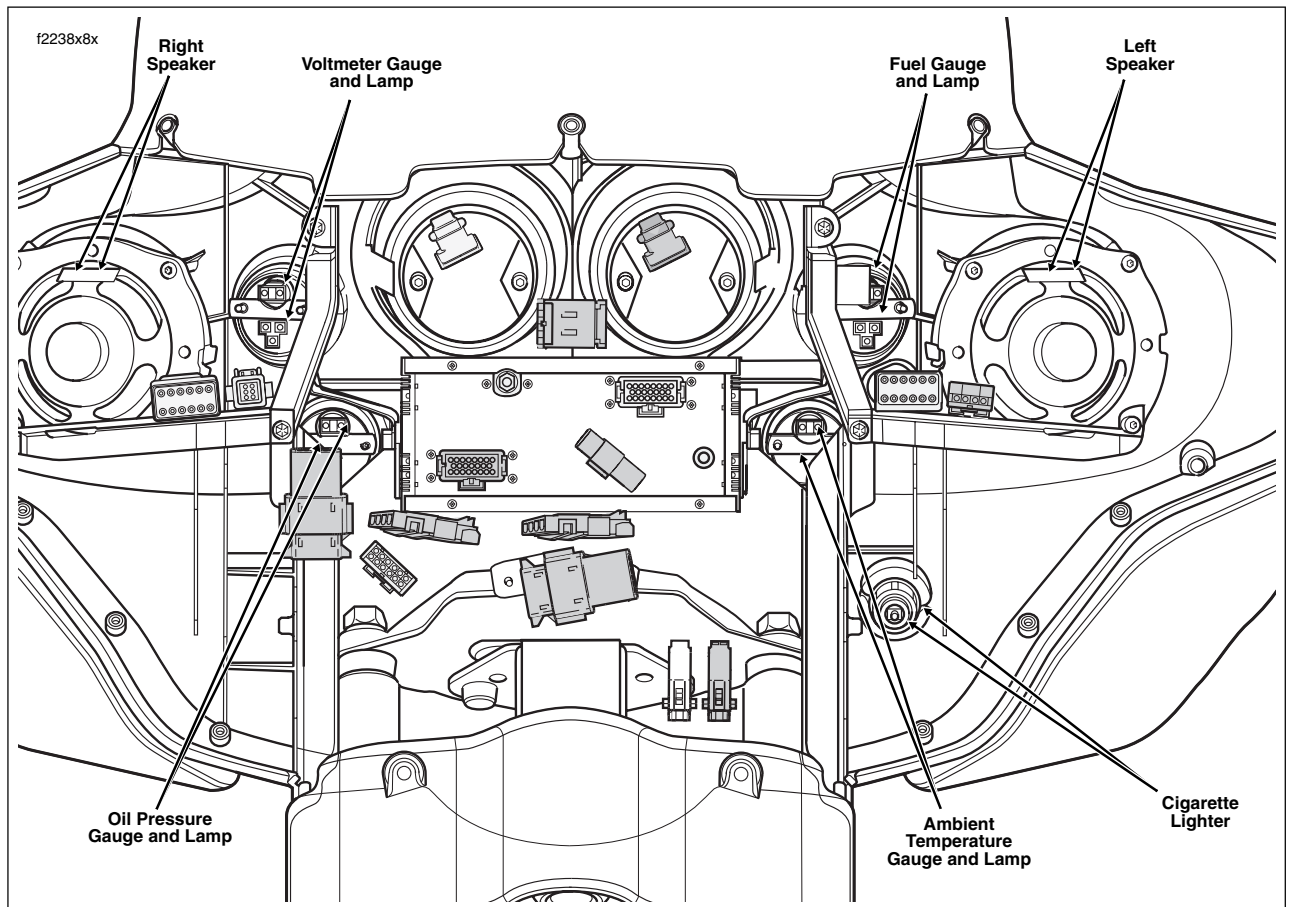

Figure 8-159. Inner Fairing - Interconnect Harness Connectors (FLHTC/U)
8. See Figure 8-159. Remove connectors from spade contacts as follows:
11. See Figure 8-159. Remove connectors from spade contacts as follows: